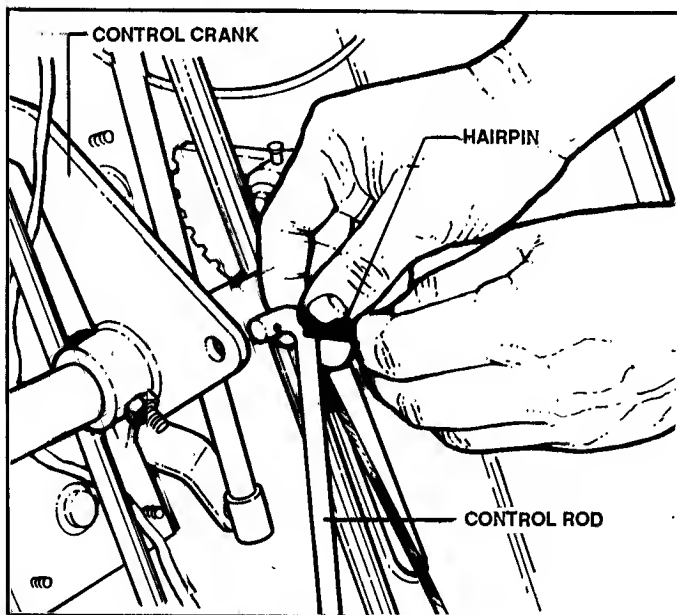

FIGURE 35
7. Remove hairpin from front of CONTROL ROD, then lower CONTROL ROD. See Figure 35.